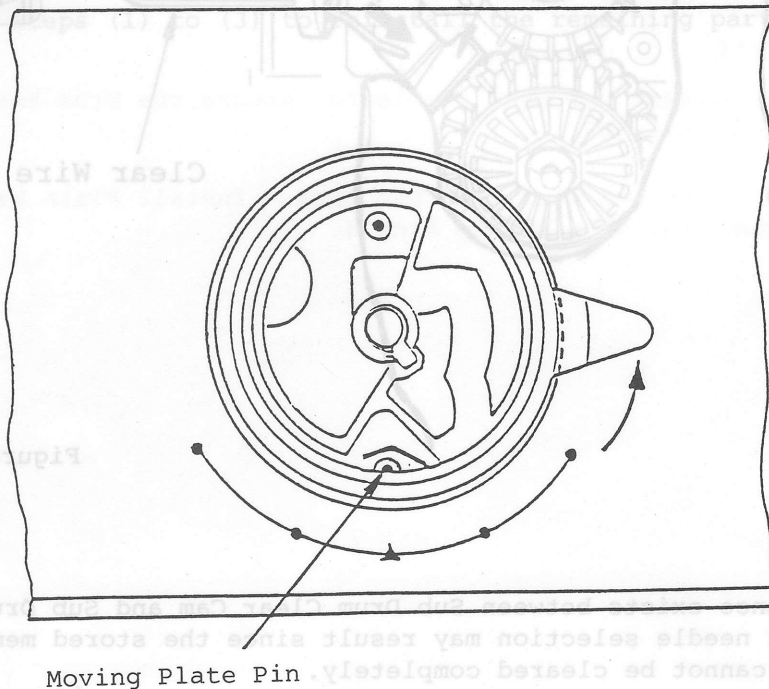

Figure 22.
2. Turn the Cam Lever counterclockwise until it falls onto the Carriage. Moving Plate Pin will be seen through the cut-out in Cam Lever as shown in Figure 22.